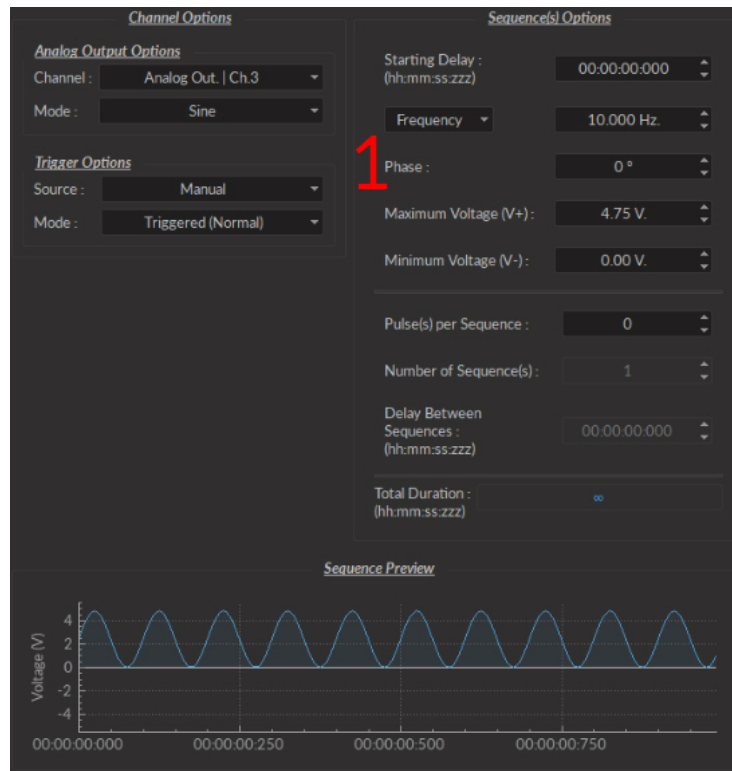

Figure 3.21: Channel(s) configuration window, Analog Output Sine
- The **Sine** mode (Fig. 3.21) creates a sinusoidal pulse sequence with peaks at **V+** and **V-**. This includes all sequence options as the **CW** and **Square** mode, save the following.
- The **Time ON** option is changed for the **Phase** option (Fig. 3.21). This allows the choice of the sine wave phase, in degrees.